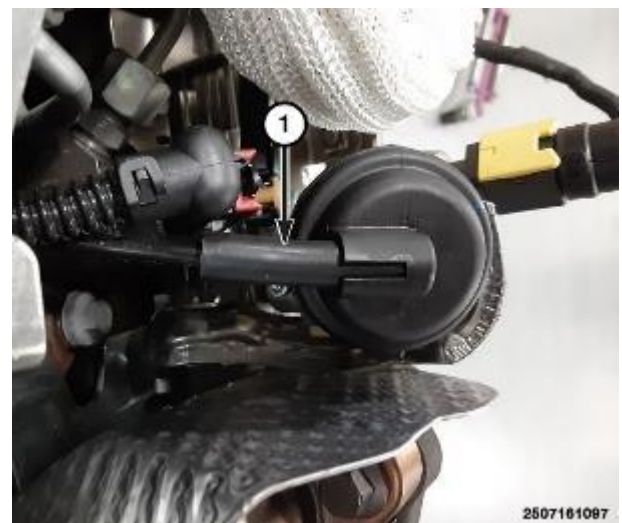

Figure 130 – EGR Cooler Vacuum Bypass Hose
68. Disconnect the EGR cooler vacuum bypass hose (1) (Figure 130).
93. Install the EGR cooler vacuum bypass hose (1). Be sure this hose is fully seated (Figure 130).